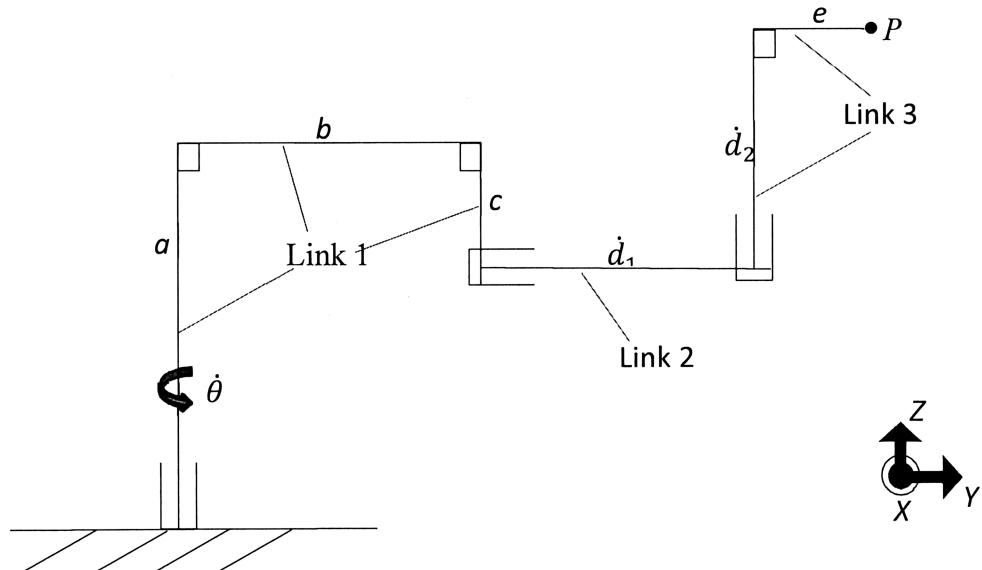

Figure 3
3. The robot in Figure 3 consists of one rotating u-bar (link 1) and two translational links (links 2 and 3). The angular displacement of the rotational joint is θ , and the displacements of the translational joints are d_1 and d_2 . Link 1 is rotating with a constant angular velocity of $\dot{\theta}$ about the vertical axis; link 2 is translating horizontally at constant velocity of \dot{d}_1 ; link 3 is an L-bar translating vertically at constant velocity of \dot{d}_2 . Note that the configuration shown in the figure is the initial position of the system where $\theta = 0$, $d_1 = K_1$, and $d_2 = K_2$. Find the absolute velocity and acceleration of the end point of the robot in terms of θ , d_1 and d_2 . (25 marks)